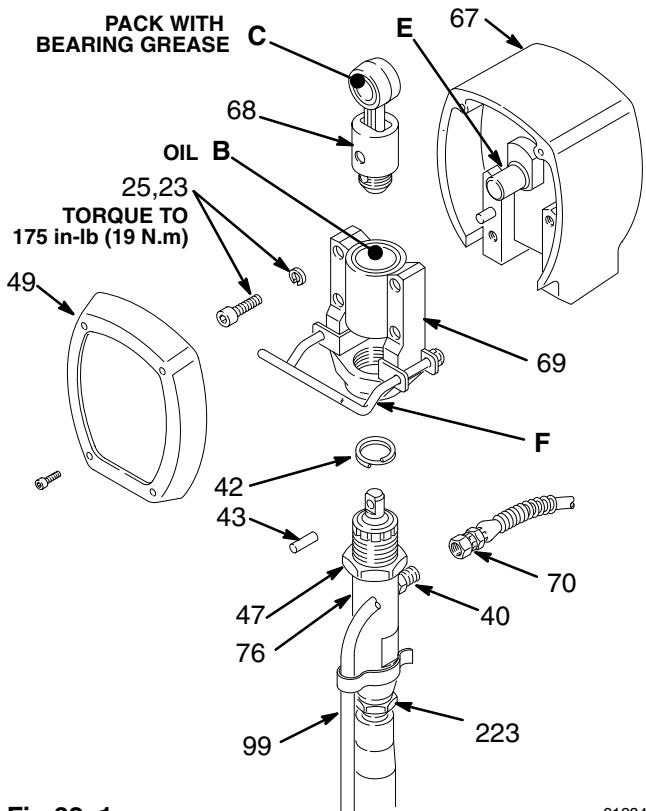

Fig 32-1
14. Install the remaining parts. See Fig 32-1.